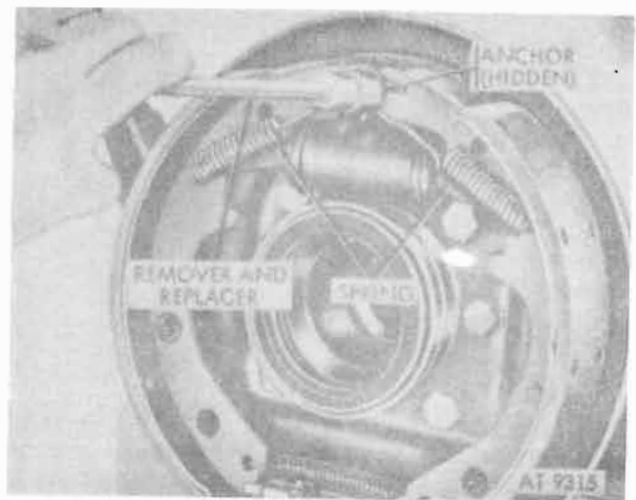

Figure 11-16. Brake retracting springs and anchor pin.
e. Disconnect brake retracting springs from anchor, using brake spring remover and replacer (fig. 11-16).
f. Remove two brake retracting springs from brakeshoes (fig. 11-16).